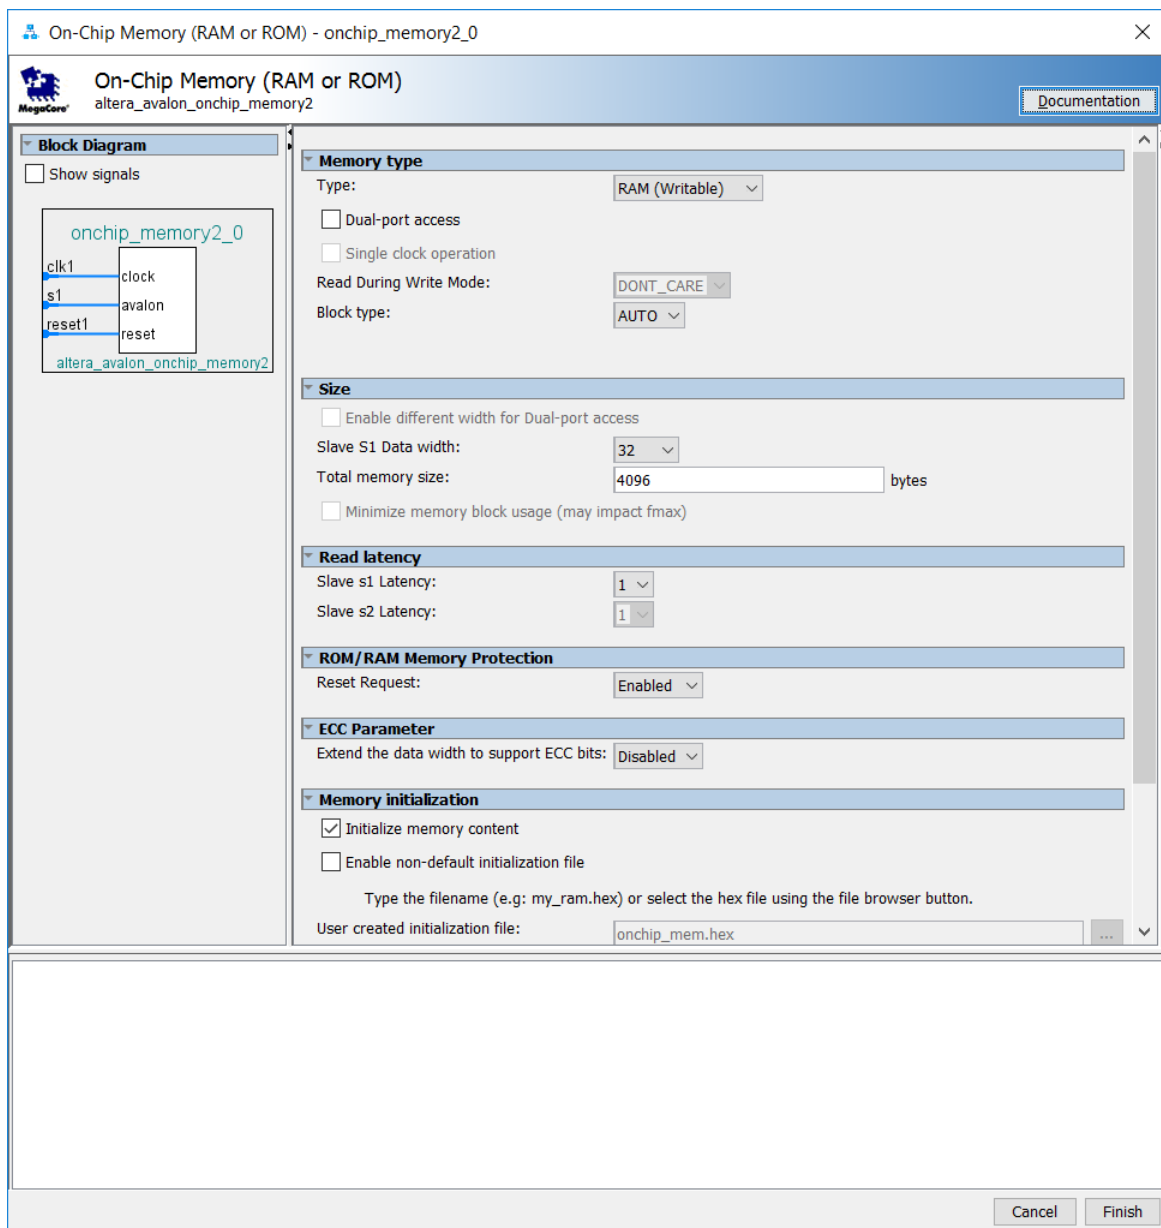

Figure 7. Define the on-chip memory.
- In the On-Chip Memory Configuration Wizard window, shown in Figure 7, ensure that the Slave S1 Data width is set to 32 bits and the Total memory size to 4K bytes (4096 bytes)